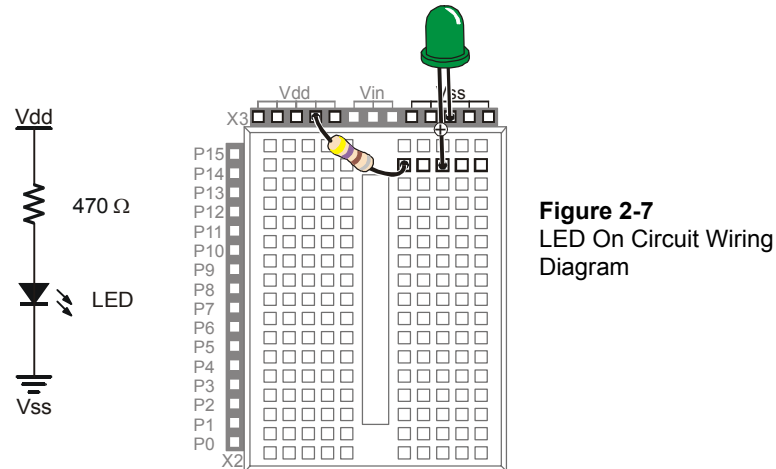

Figure 2-7
You are now ready to build the circuit shown in Figure 2-7 (below) by plugging the LED and resistor leads into sockets on the prototyping area. Follow these steps:
- ✓ Double check to make sure you built your circuit exactly as shown in Figure 2-7.